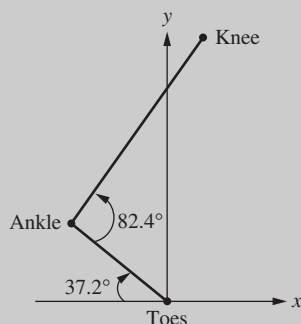

Figure 3.37 Position of the runner's leg during motion capture study.
In a motion capture study of a runner, one frame shows the subject supporting her weight on one leg, as shown in Fig. 3.37. The length of the foot segment (from ankle to toe) is 7.9 in. and the length of the lower leg (from ankle to knee) is 17.1 in.
- (a) Given the angles shown in Fig. 3.37, find the position of the knee if the runner's toes touch the ground at the point $x = y = 0$.